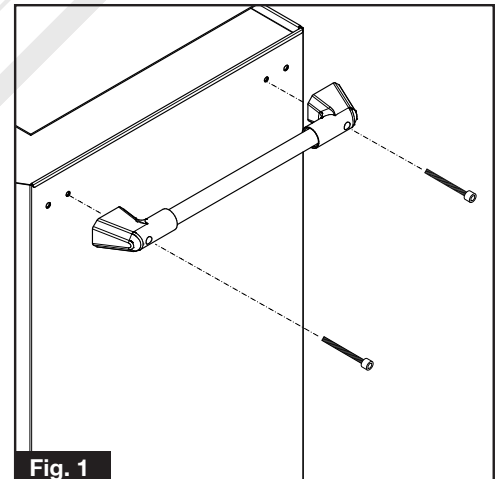

Fig. 1
- Attach with M6x55mm screws and tighten with a 5mm Hex Key as shown in Fig. 1.